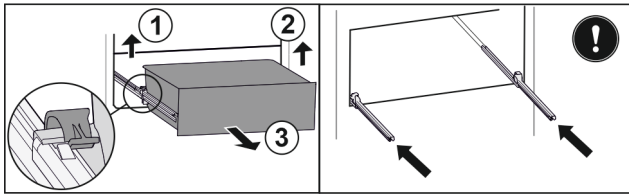

Fig. 93
- ▶ Lift left clamp and simultaneously pull drawer forwards on the left. Fig. 93 (1)
- ▶ Lift right clamp and simultaneously pull drawer forwards on the right. Fig. 93 (2)
- ▶ Remove drawer to the front. Fig. 93 (3)